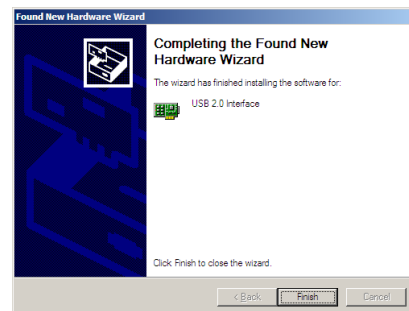

**Figure 2**
- (3) Choose “Install the software automatically” (Recommended) to find the proper driver automatically (Figure 2). Click “Next”.
- (4) Click “Next” when a driver is found.